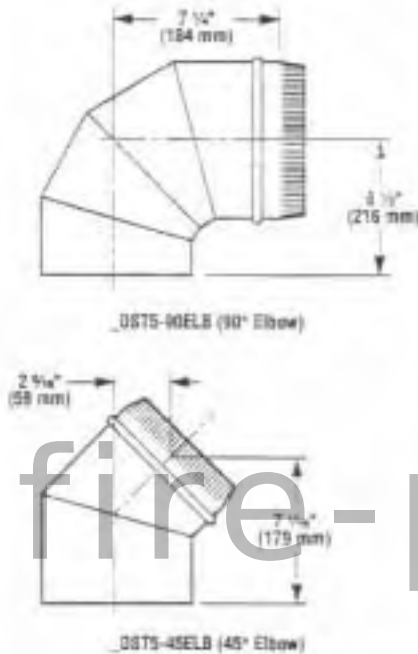

Figure 28
Analyze the vent routing and determine the quantities of vent sections and number of elbows required. Refer to Vertical Vent Table on page 8 to select the type of vertical installation desired. Vent sections are available in net lengths of 10 3/4" (273 mm), 16 3/4" (425 mm) and 34 3/4" (883 mm). Refer to the Vent Section Length Chart on page 8 to determine available length combinations. Elbows are available as 90° and 45° configurations. Refer to Figure 28 for the \_DST5 elbow dimensional specifications.
A. Analyze the vent routing and determine the types and quantities of sections required. Venting is available in 10 3/4" (260 mm), 16 3/4" (413 mm) and 34 3/4" (867 mm) net section lengths. Make allowances for elbows as indicated in Figure 28. Maintain a minimum 1" (25 mm) clearance to combustibles on the vertical sections. Clearances for the horizontal runs are: 3" (76 mm) on top, 1" (25 mm) on sides, and 1" (25 mm) at the bottom.